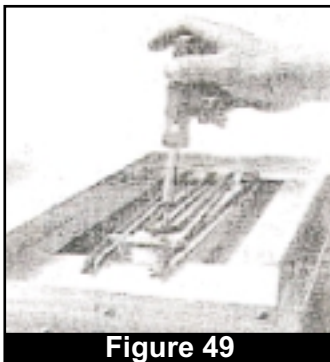

Figure 49
5. Remove four screws securing the heating element brackets to the ceramic insulators with a medium (6") flathead screwdriver. (Fig. 49)